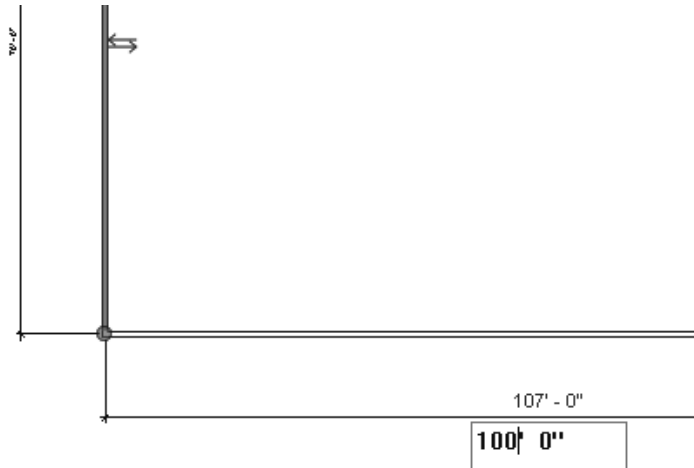

Figure 2–22
9. Select either vertical wall. The horizontal dimension becomes active (changes to blue). Click the dimension text and type **100' 0"**, as shown in Figure 2–22.